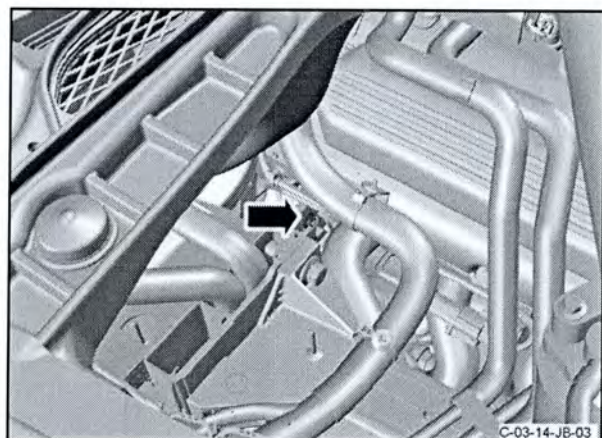

Figure 41
82. Install the nut that attaches the heat shield for the front floor, to the body (refer to Figure 41). Torque the nut to 9 Nm.